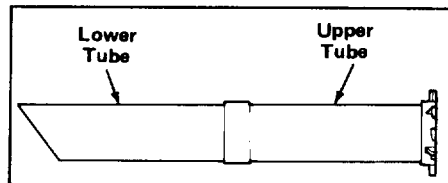

Figure 3
3. Slide upper and lower tubes together as shown in Figure 3.